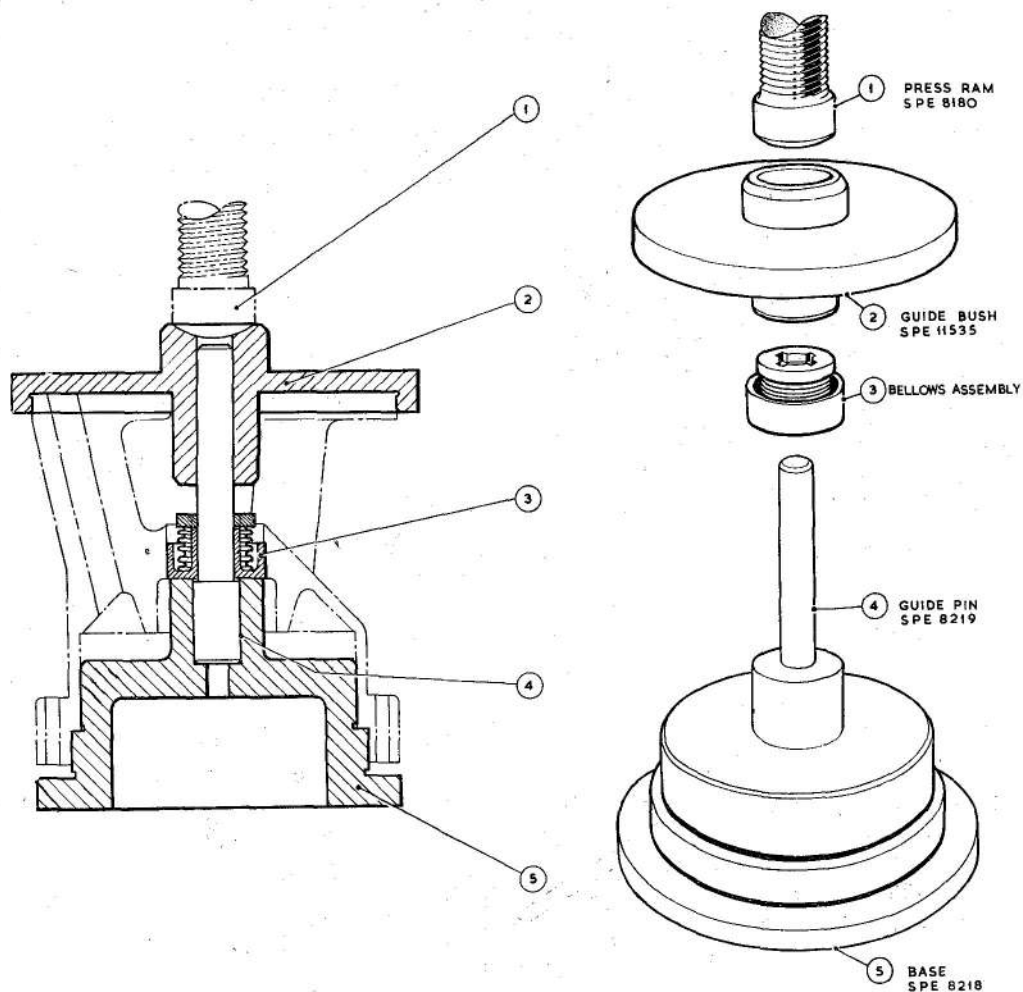

Fig. 4. Replacement of bellows gland
- (2) Withdraw the impeller (25) together with the adjusting bush (83) and any shims (27) fitted. Suitably label these shims with reference to their location to facilitate reassembly.
- (3) Use the extractor tool SPE.11536 illustrated in fig. 4 in the basic chapter, to withdraw the vapour assister assembly (82). Remove the joint washers (81).
- (2) Pre-heat the casting to approximately 200 deg. F. (93 deg. C.).
- (3) Smear the shroud of the bellows gland (80) with 'Wellseal' jointing compound, ensuring that none sets on to the gland seal face or convolutions.
- (4) Use the special tools illustrated in fig. 4 to correctly position the gland in the pump casting.